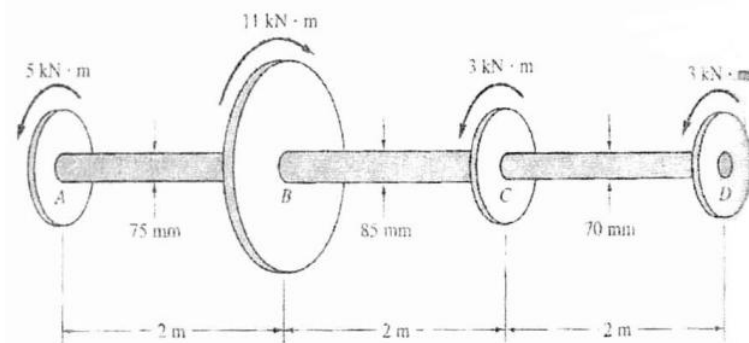

Fig. 8
6. A steel section as shown in Fig. 8 is subjected to a shear stress force 200 kN. Determine the shear stresses at the important points and sketch the shear distribution diagram. **(20)**
- (b) Determine the maximum shear stress in the shaft subjected to the external torques as shown in Fig. 8. **(8,12)**